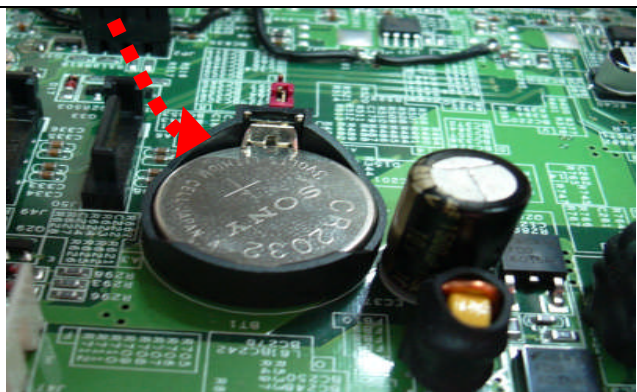

Fig. 2-10 Restore the battery
2. Replace it with a new one by pressing the battery with fingertip to restore the battery (**Fig. 2-10**).